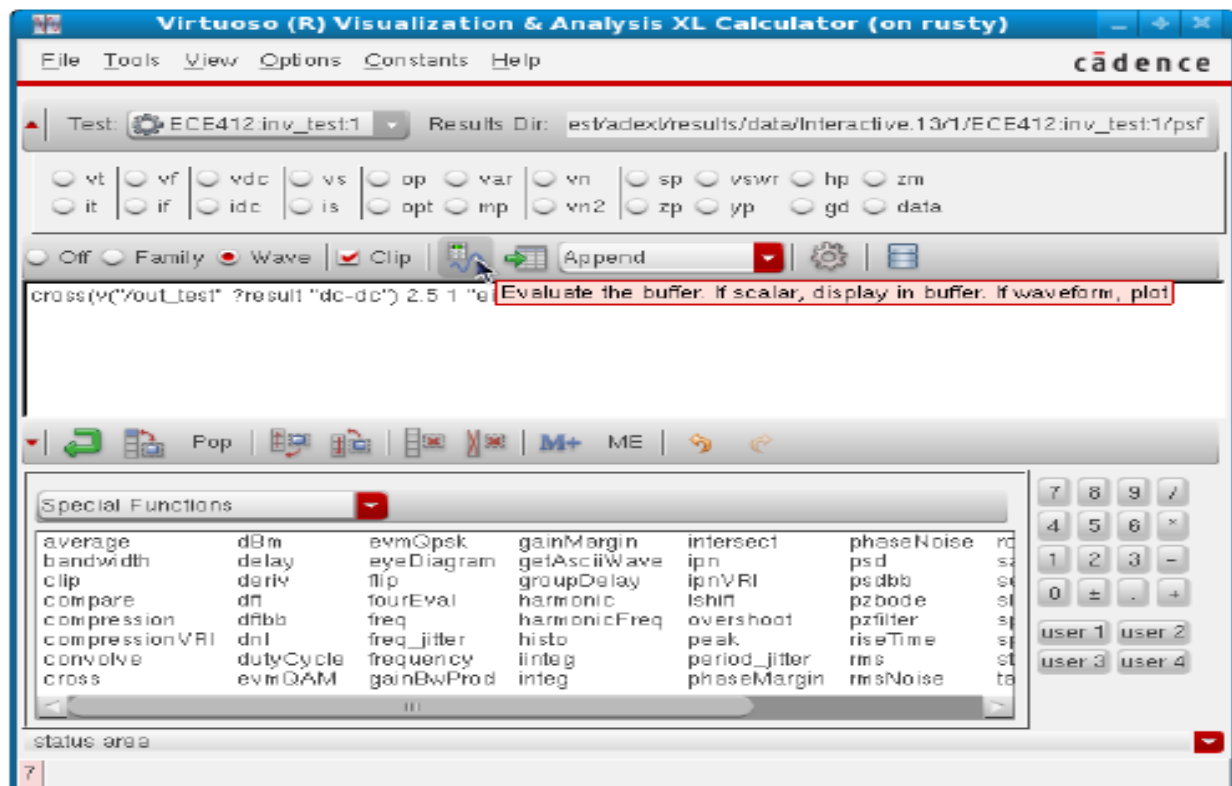

Figure 8: Virtuoso Calculator
8. The calculator's buffer text area should have the cross() function with the proper parameters. Click on evaluate buffer as depicted in figure 8 and write down the result, we will use it later in AC analysis. You can now close the calculator and the graph window.